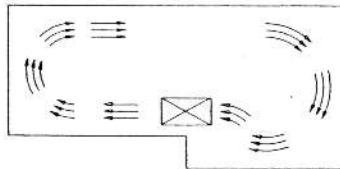

FIGURE 2
2. In a "L" shaped room position the unit so the air circulation will draw air from the "L". (Figure 2.)